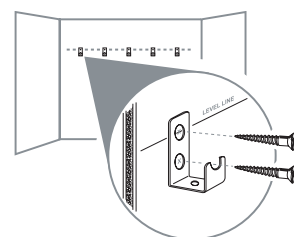

FIG. 4.2
6. Center the top screw hole on L-Hook with level line on wall and attach L-Hooks to wall using #8 1-1/2" screws (Fig. 4.2).